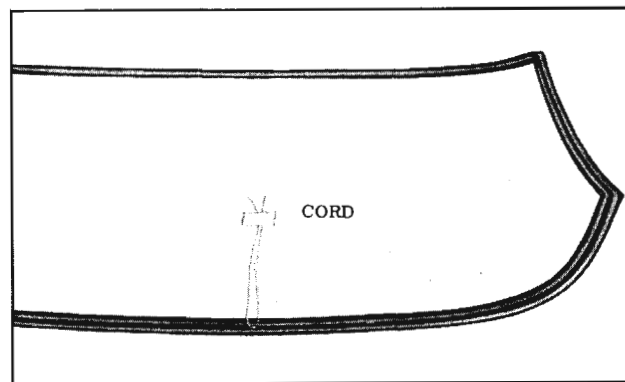

Fig. 16-8 Cord Installation
3. Install a strong cord in pinchweld cavity of rubber channel completely around windshield. Tie ends of cord and tape to inside surface of glass at bottom center of glass. (Fig. 16-8)